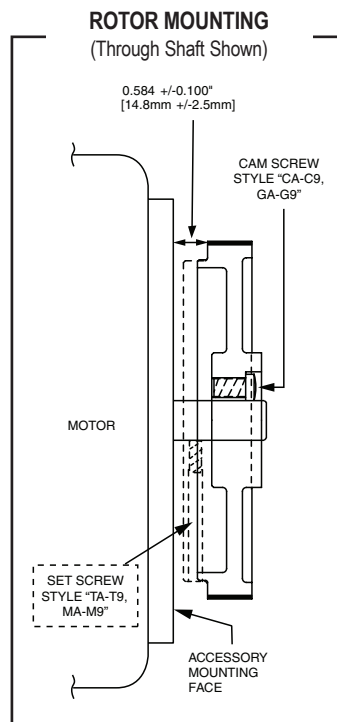
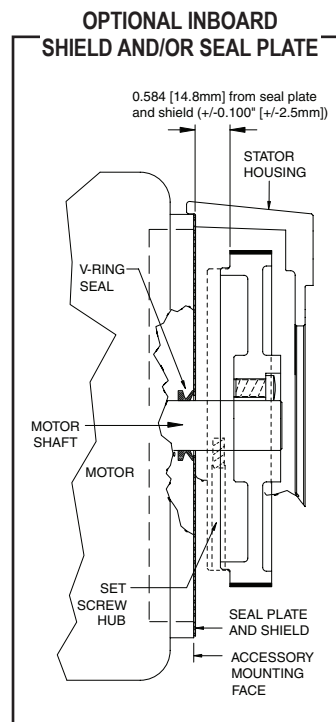

FIGURE 2
FIGURE 3
8. Mount rotor per instructions below, but increase axial position from motor to rotor to 0.620" [15.75mm] (from 0.584") to accommodate the inner seal plate thickness. See Figure 3.
4. Install rotor as usual, but gage location from the shield. See Figure 3.
4. Slide the rotor onto the stub shaft. The space between the mounting face and the magnetic strip of the rotor must be set to 0.584", as shown in Figure 2. Use Avtron gauges (A25355 or A35226) or use housing alignment grooves as shown in Figure 5 to verify position.
2. Slide the rotor on the shaft (option "B" or "T"), ensuring the rotor label "this side out" is away from the motor. The space between the mounting face and the rotor must be set to 0.584" [14.83mm], as shown in Figure 2. Use Avtron gauges (A35226 or A25355) or housing alignment grooves as shown in Figure 5 to verify position. (Note: if optional inboard seal or shield plate is used, gage the rotor location from the seal shield plates. See Figure 3.)
- 2a. If using a set screw rotor (TA-T6), apply threadlocker to the set screws (2) and tighten to 25 in-lbs.